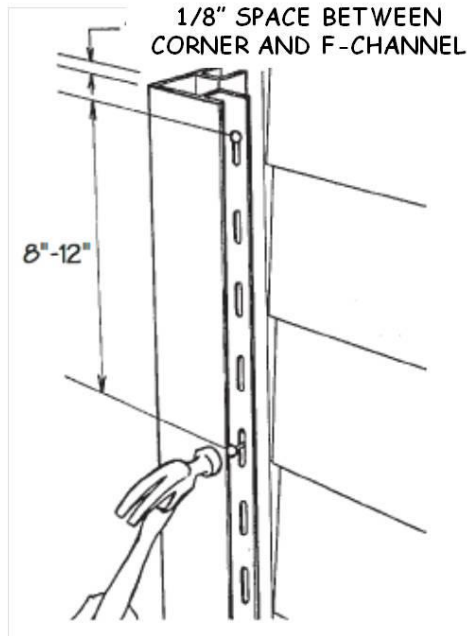
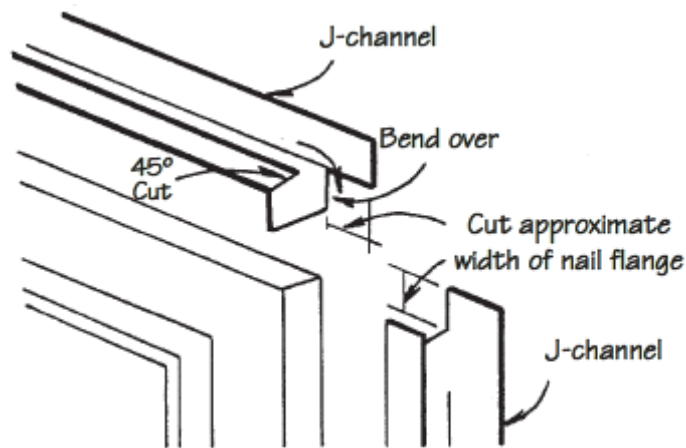

Figure 11-3. Siding Corner.
Figure 11-4. J-Channel Upper Corner Detail.
NOTE: Figures 11-4 through 11-10 were provided courtesy of the Vinyl Siding Institute, Inc. Figures 11-3 and 11-12 are modified versions of figures provided courtesy of the Vinyl Siding Institute, Inc.
2. For door side pieces, measure from the top of the brickmold to the porch cement. Cut J-channel side pieces to that length. Install side pieces flush with the top of the brickmold, nailing snugly every five slots. See Figure 11-4.